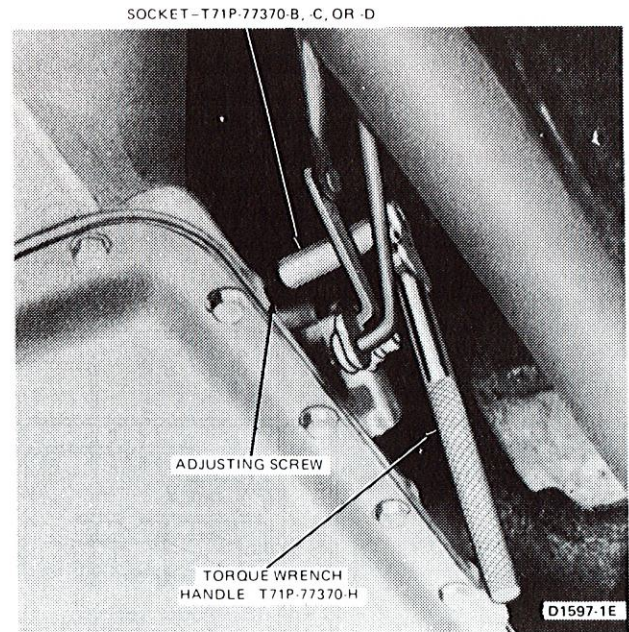

FIG. 4 Adjusting Intermediate Band
3. Install a new locknut and tighten the adjusting screw to 14 N·m (10 ft-lbs) torque (Fig. 4).